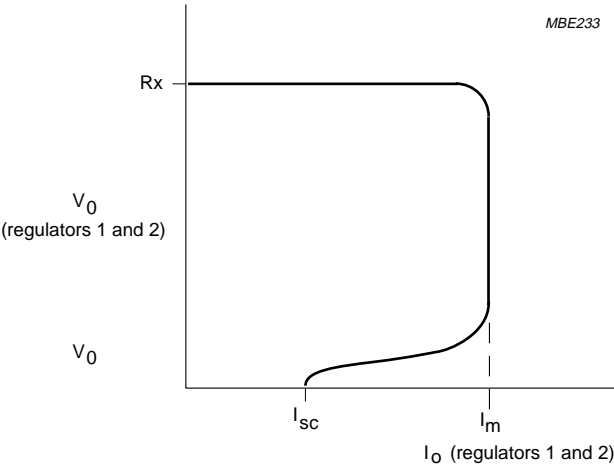

Fig.5 Foldback current protection of the regulators.
8. At current limit,  $I_{REGm}$  is held constant (see Fig.5).
9. The foldback current protection limits the dissipated power at short-circuit (see Figs 5 and 6).